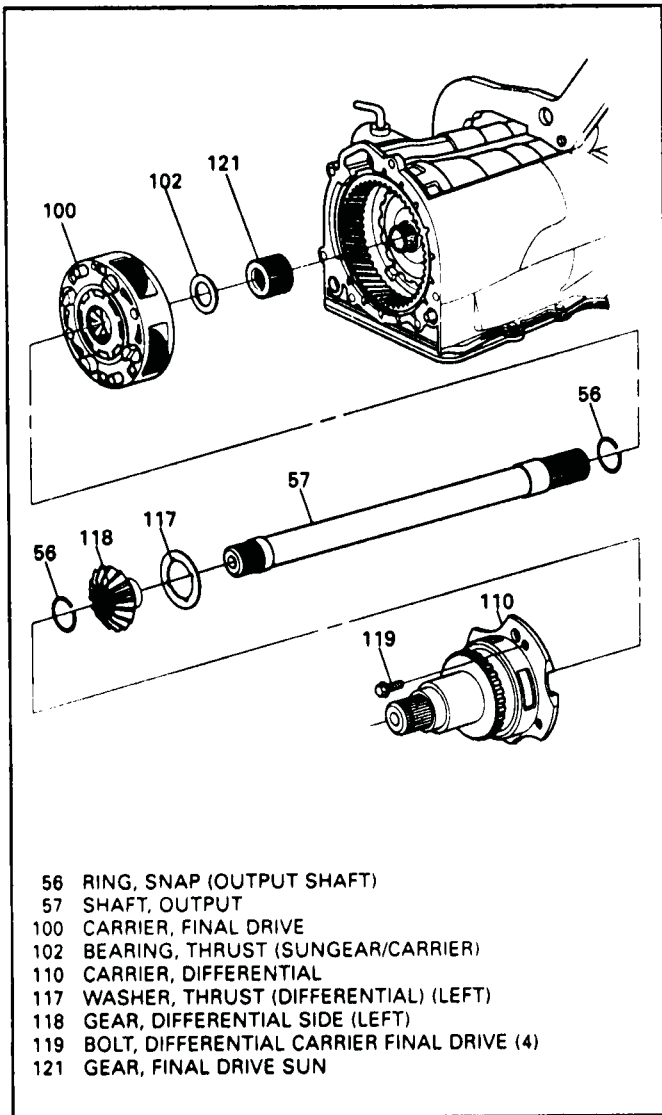

Figure 121
1. Install final drive sun gear onto the final drive sun gear shaft splines, as shown in Figure 121, with the seal side side facing the differential.
2. Install the final drive carrier with the thrust bearing secured with TransJel on sun gear side, turning unit until it meshes with sun gear and ring gear. (See Figure 121).
3. Install left side thrust washer (117) on carrier and retain with TransJel. (See Figure 121).
4. Install left side differential side gear (118) as shown in Figure 121.
5. Install output shaft (57) from opposite side of transaxle, and spline it into differential side gear (Figure 121).
6. Install NEW snap ring (56) onto the output shaft. Do not overexpand the snap ring. It MUST seat down inside of the left differential side gear to allow proper assembly of differential carrier. (See Figure 121).
8. Install differential housing (110) and hand start four bolts, as shown in Figure 121.
9. Differential housing MUST locate on the dowels on carrier (See Figure 121).